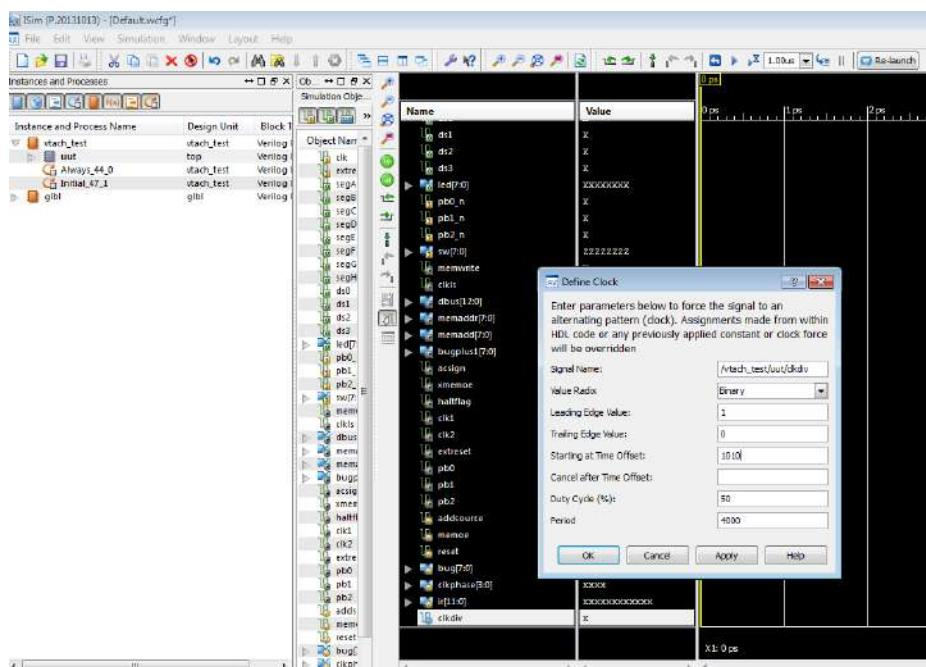

Figure 5-26 Force clkdiv
3. Now go to the bottom of the wave window, right-click the signal clkdiv, and, as shown in Figure 5-26, force the clock to have a leading edge value =1 of trailing edge value of 0, and a period of 4000. Set Starting at Time Offset to 1010 and click OK. This is required because there is a slight problem with the way the clock divider design is implemented and the way iSim sees it without a delay through the register. This is a shortcut hack, but sometimes it's okay to do this because we know that the design works in the real logic. It didn't seem worth the effort to try to fix it for simulation.